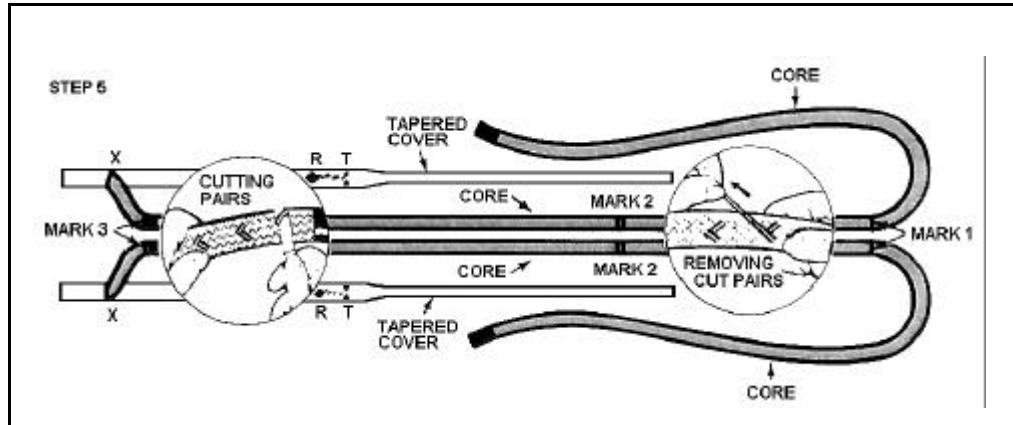

Figure 12-70. Performing the Taper
- STEP 5 -- Performing the taper.** Remove tape from cover end. Starting with last marked pair of cover strands toward the end, cut and pull them completely out (see Figure 12-70 insert, page 12-58). Cut and remove next marked strands and continue with each right and left marked strands until you reach point T. Do not cut beyond this point (see Figure 12-70 insert, page 12-58). Retape tapered end. Cut and remove marked strands on the other marked cover, again stopping at point T. Retape tapered end.